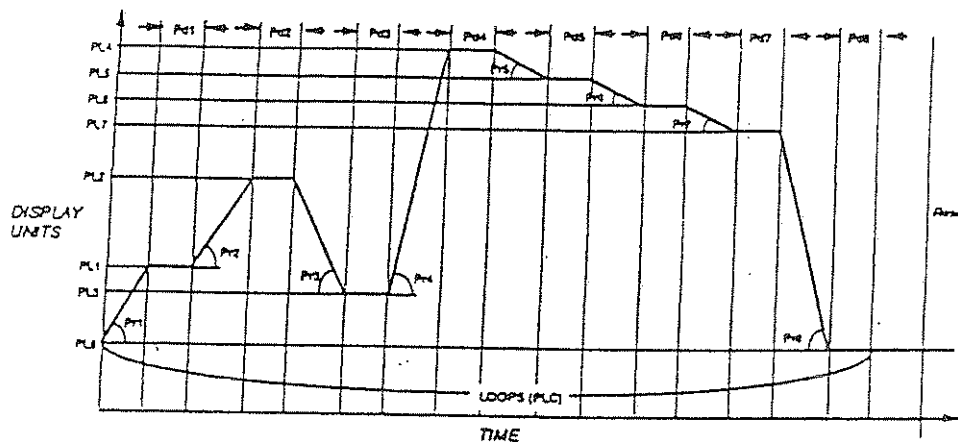

Figure 4.2: Sample 818P4 Program
1. Sketch out your desired temperature profile. (See Figure 4.2 for a sample 818P profile).